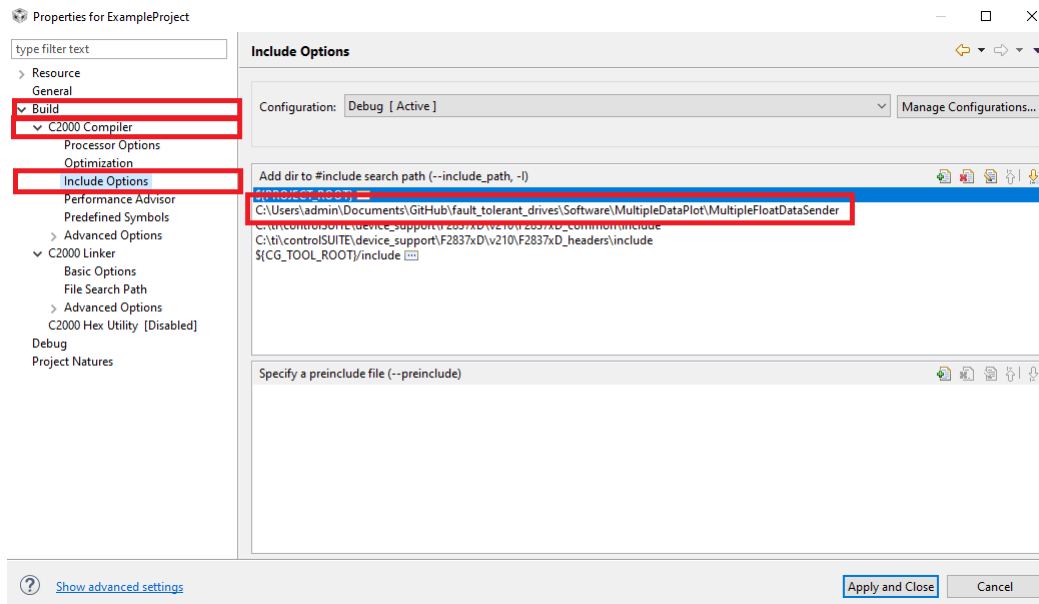

Figure 3: Addition of library path to the project
2. Add the library project path to the included path, as show in Figure 3